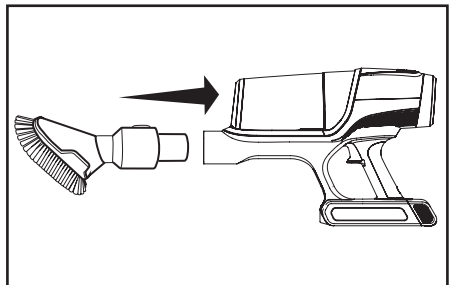

Fig. 4
2. Insert your preferred accessory into the main body. It will click when secured in place. Push the on/off trigger to turn the vacuum on (Fig. 4).